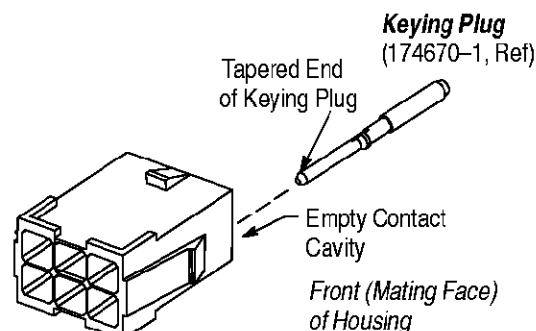

Figure 4
1. Align the tapered end of the keying plug with the desired contact cavity at the FRONT (mating face) of the housing. Insert the keying plug straight into the cavity until it snaps into position. Refer to Figure 4.